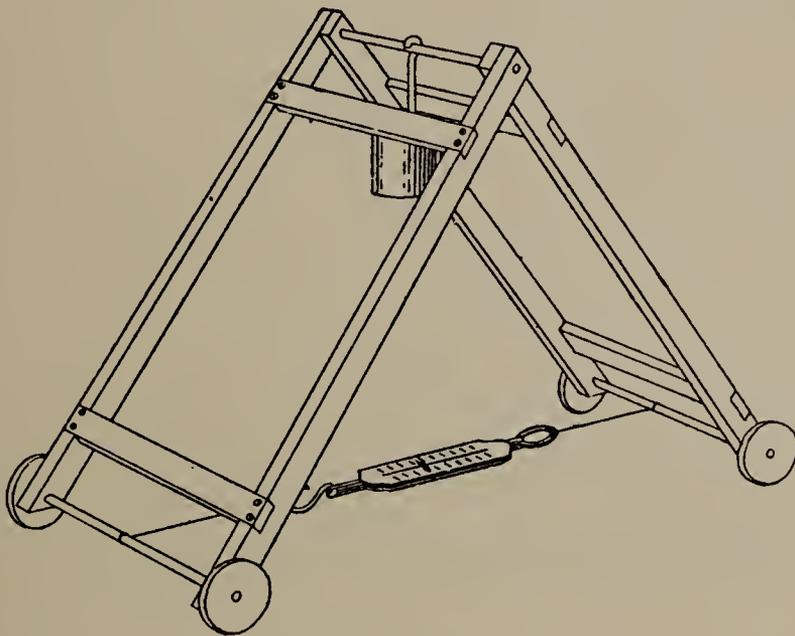

FIG. 38.
(a) Set up a simple model of a pair of roof trusses as shown in Fig. 38. A weight is to be suspended from the rod at the peak of the truss. Make the angle at the peak  $90^\circ$ . This can be done by using a try square or a T-square, if either is at hand, or by simply holding up a book so that the corner of the book is at the top of the peak and the timbers are in line with the edges of the book. The cord attached to the spring balance can be drawn tighter or
*Materials Required.*—Spring balance; cord; weight; model roof truss. The model roof truss may be made after the model shown in Fig. 38. Eighteen inches is a convenient length for the long timbers. The rods may be of brass. Small brass wheels about  $1\frac{1}{2}$  in. in diameter may be obtained from dealers in scientific apparatus with the rods fitted to them. If the wheels are not at hand the experiment can be worked by simply placing the four ends of the timbers in four carts such as are used for the inclined plane experiment.